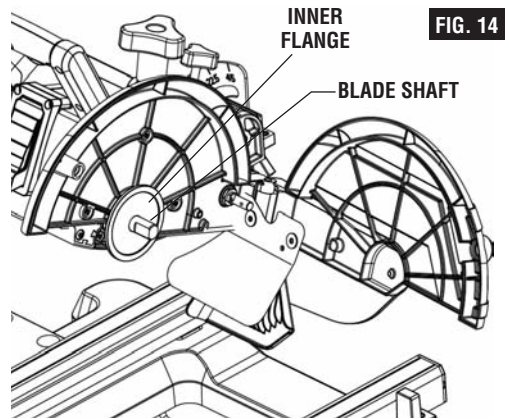

FIG. 14
4. Place new blade on blade shaft (Fig. 14).